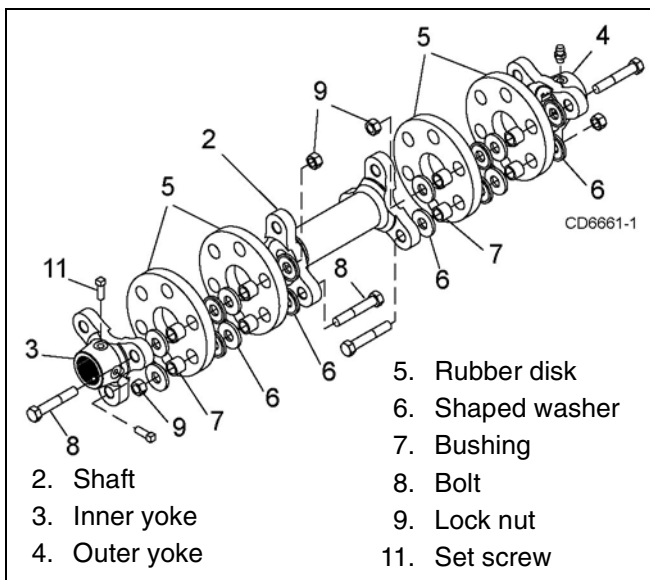

Figure 16. Side Drive Assembly
Reassemble shaft as shown in Figure 16. End yokes (3 & 4) do not bolt directly to center shaft (2). Use the special formed washer (6) and bushings (7) between the rubber disks (5) and under bolt head or nut near rubber disc. Tighten nuts (9) and bolts (8) to 85 lbs-ft. Tighten set screw (11).